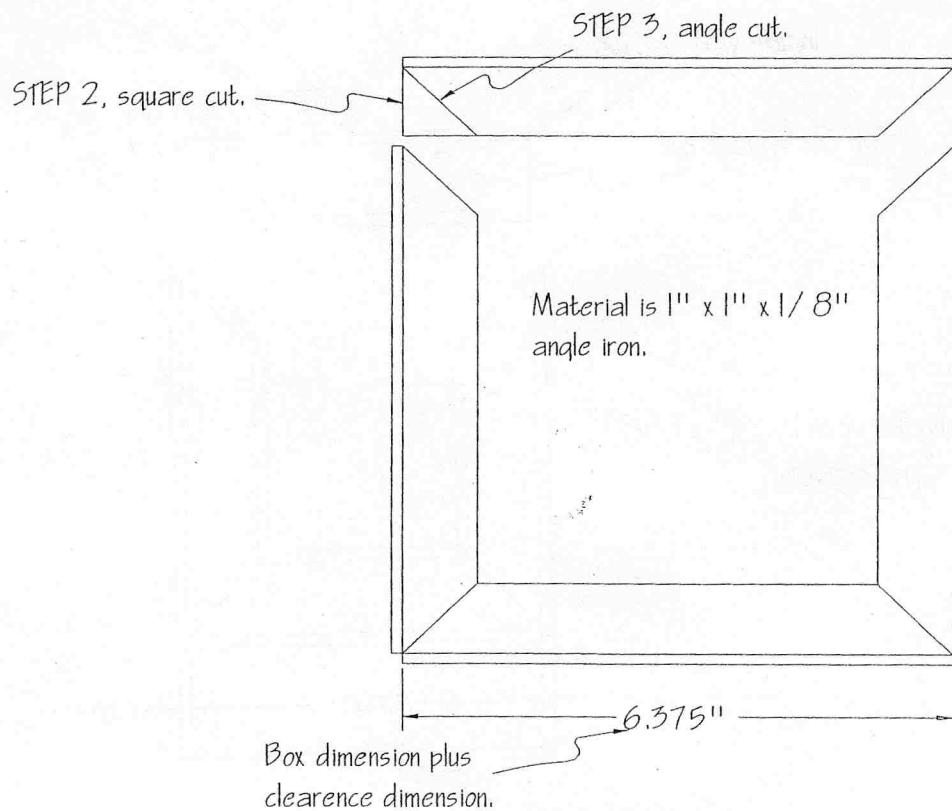

Figure 2. Angle iron frame with clearances.
1. Determine the proper clearances you need. For our example in Figure 2 we have an overall clearance of $3/8$ " on a 6" square object ($3/16$ " per side).